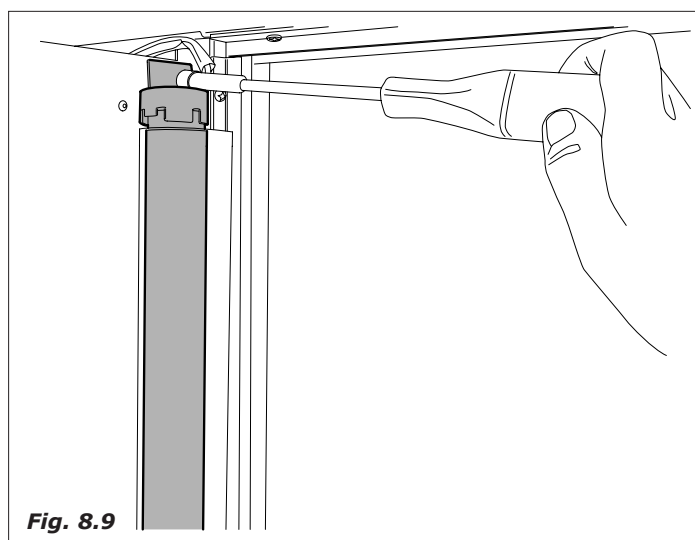

Fig. 8.9
- Loosen the screw fixing the windowpane profile (Fig. 8.9).